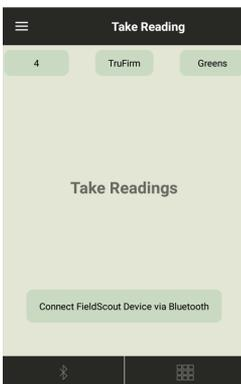

Figure 1a. Bluetooth Connect button (grid)
8. In Basic mode, the Grid screen appears. Tap on a grid cell where measurements will be added. The app will display the Take Readings screen (fig. 1a).